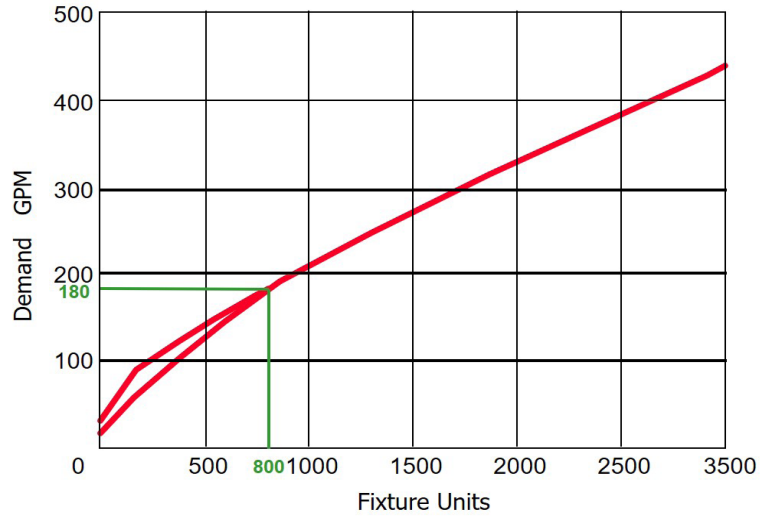

Figure 3
How much GPM is required for to satisfy an 800 fixture unit (FU) demand? To find out we must consult Hunters Curve shown in Figure 3. This curve, which can be found in the IPC, is named for Dr. R. B. Hunter, an acclaimed researcher at the National Bureau of Standards from 1921 to 1943. Dr. Hunter invested decades of study to the sizing of pipe and the probability of fixture use. His theories resulted in this